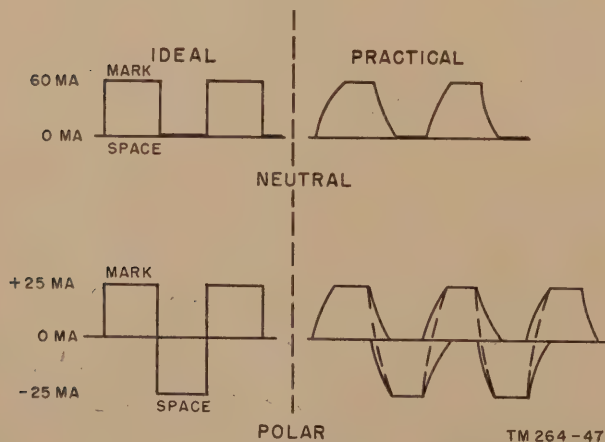

Figure 6. Neutral and polar waveshapes.
*a. Methods.* Two methods of transmitting TT signals on wire lines are normally used; the *neutral* system and the *polar* system. In the neutral system, use is made of *current on* and *current off* square-wave pulses of one polarity. The polar system uses positive and negative square-wave pulses. Figure 6 shows ideal and practical signal pulses. The transi-
- (1) The code should preferably use only two line conditions, such as current and no current.
- (2) The number of code elements per character should be a minimum in order to permit high-speed operation over relatively narrow-band telegraph circuits. (A greater keying speed is equivalent to more information per unit time; the more information that is transmitted in a given time, the greater the necessary bandwidth.)
- (3) The number of code units per character should preferably be uniform in order to give simple machine design.
d. The mark and space impulses used to operate a teletypewriter are pulses of direct current of uniform intensity (figs. 6 and 7). If oscilloscope test prods were connected across a line carrying these mark and space impulses, they would appear as a square waveform (fig. 6). It is very important that the transmitted impulse maintain its waveform when it reaches